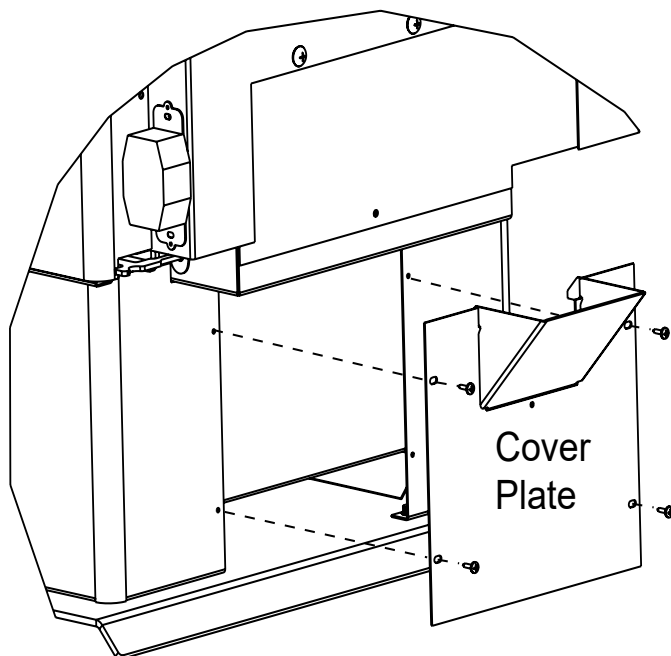

Figure 23.3
**NOTE:** If installing a floor installation of an outside air kit on a Step Top model with a pedestal assembly you must attach the enclosed cover plate with 4 screws to the back of the appliance. Other wise you may discard this piece (**Figure 23.3 on page 23**).